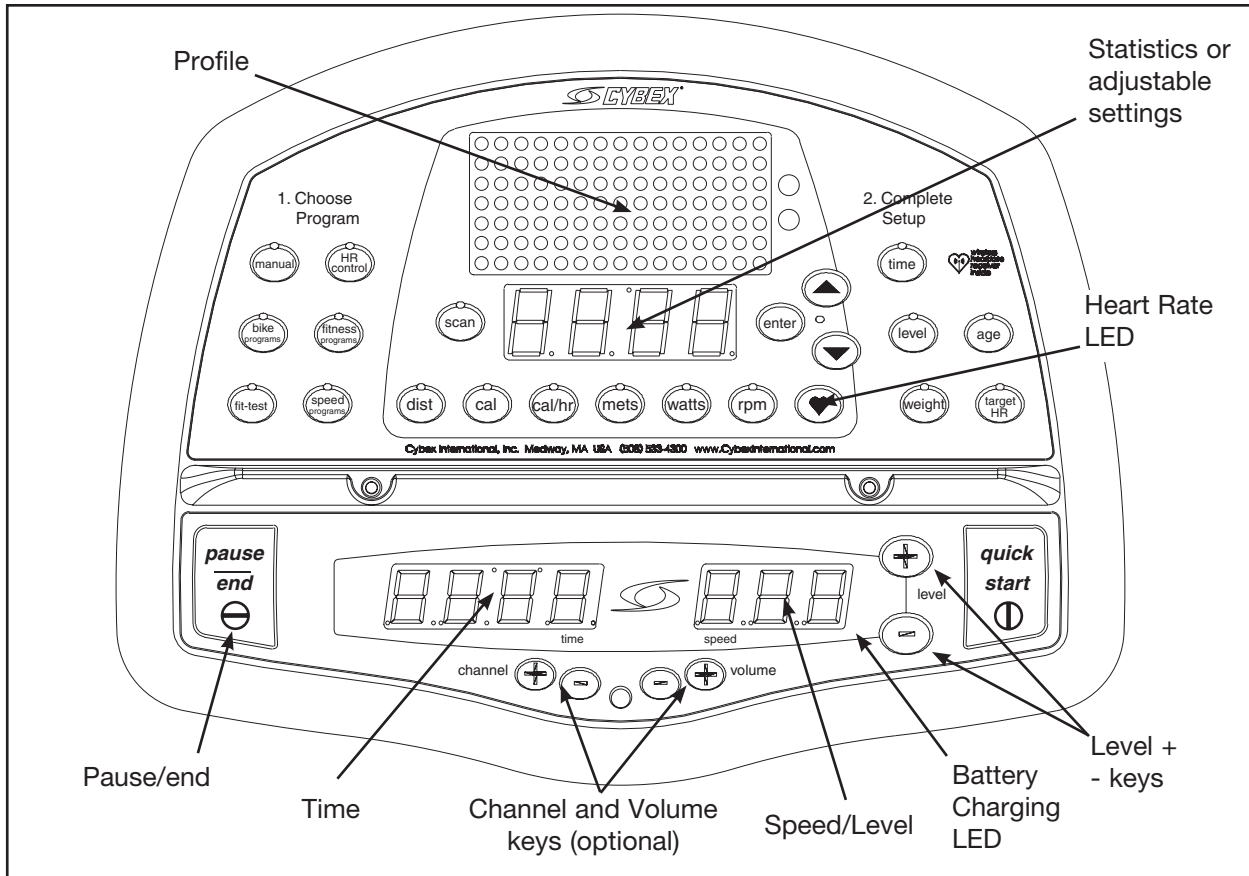
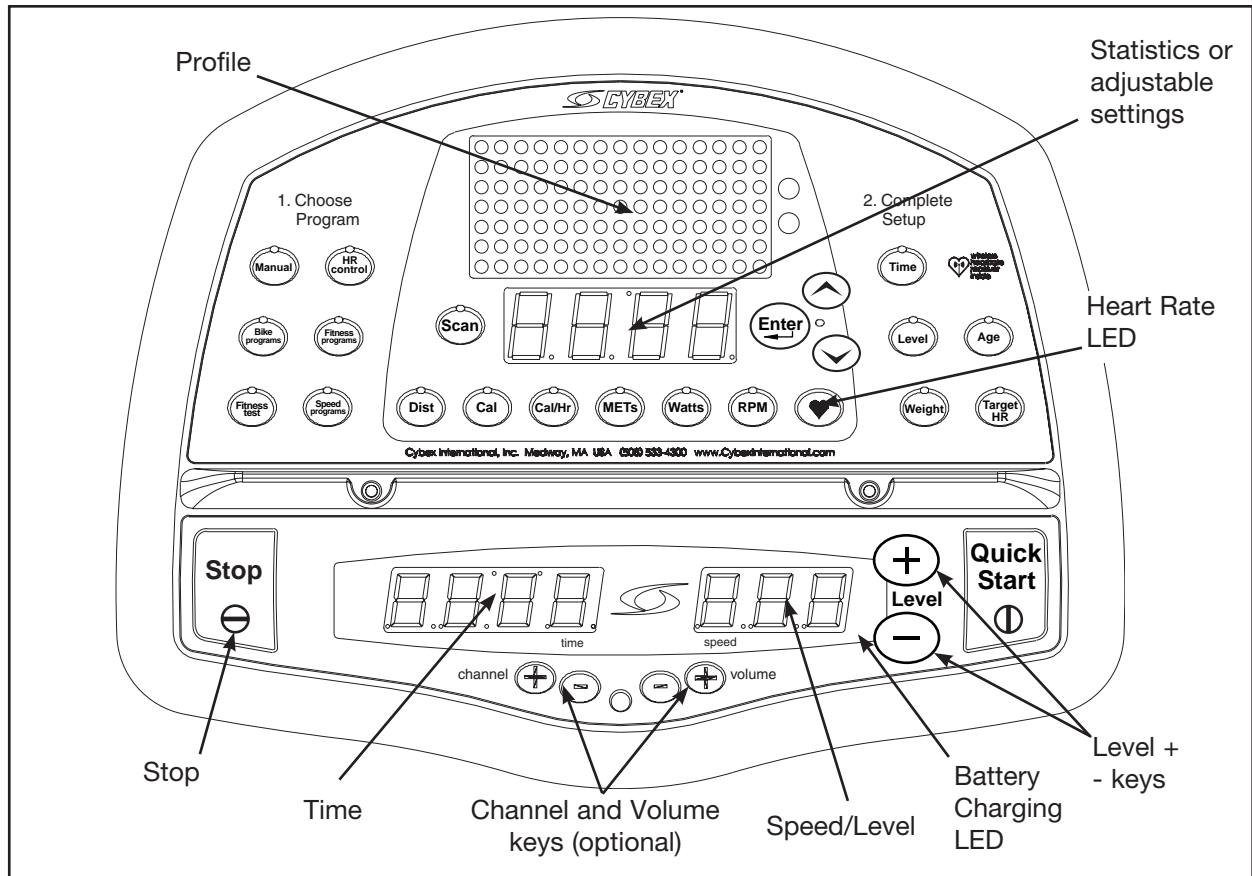

Figure 1A (Standard)
Figure 1B (Total Access)
NOTE: Standard units contain a **Pause/end** key. See Figure 1A. Total access units contain a **Stop** key. See Figure 1B.
- 6. Observe the four displays (See Figure 1A or 1B):
NOTE: Heart Rate is scanned only when you are holding the contact heart rate grips or using Polar compatible heart rate transmitter. See Figure 1A or 1B.